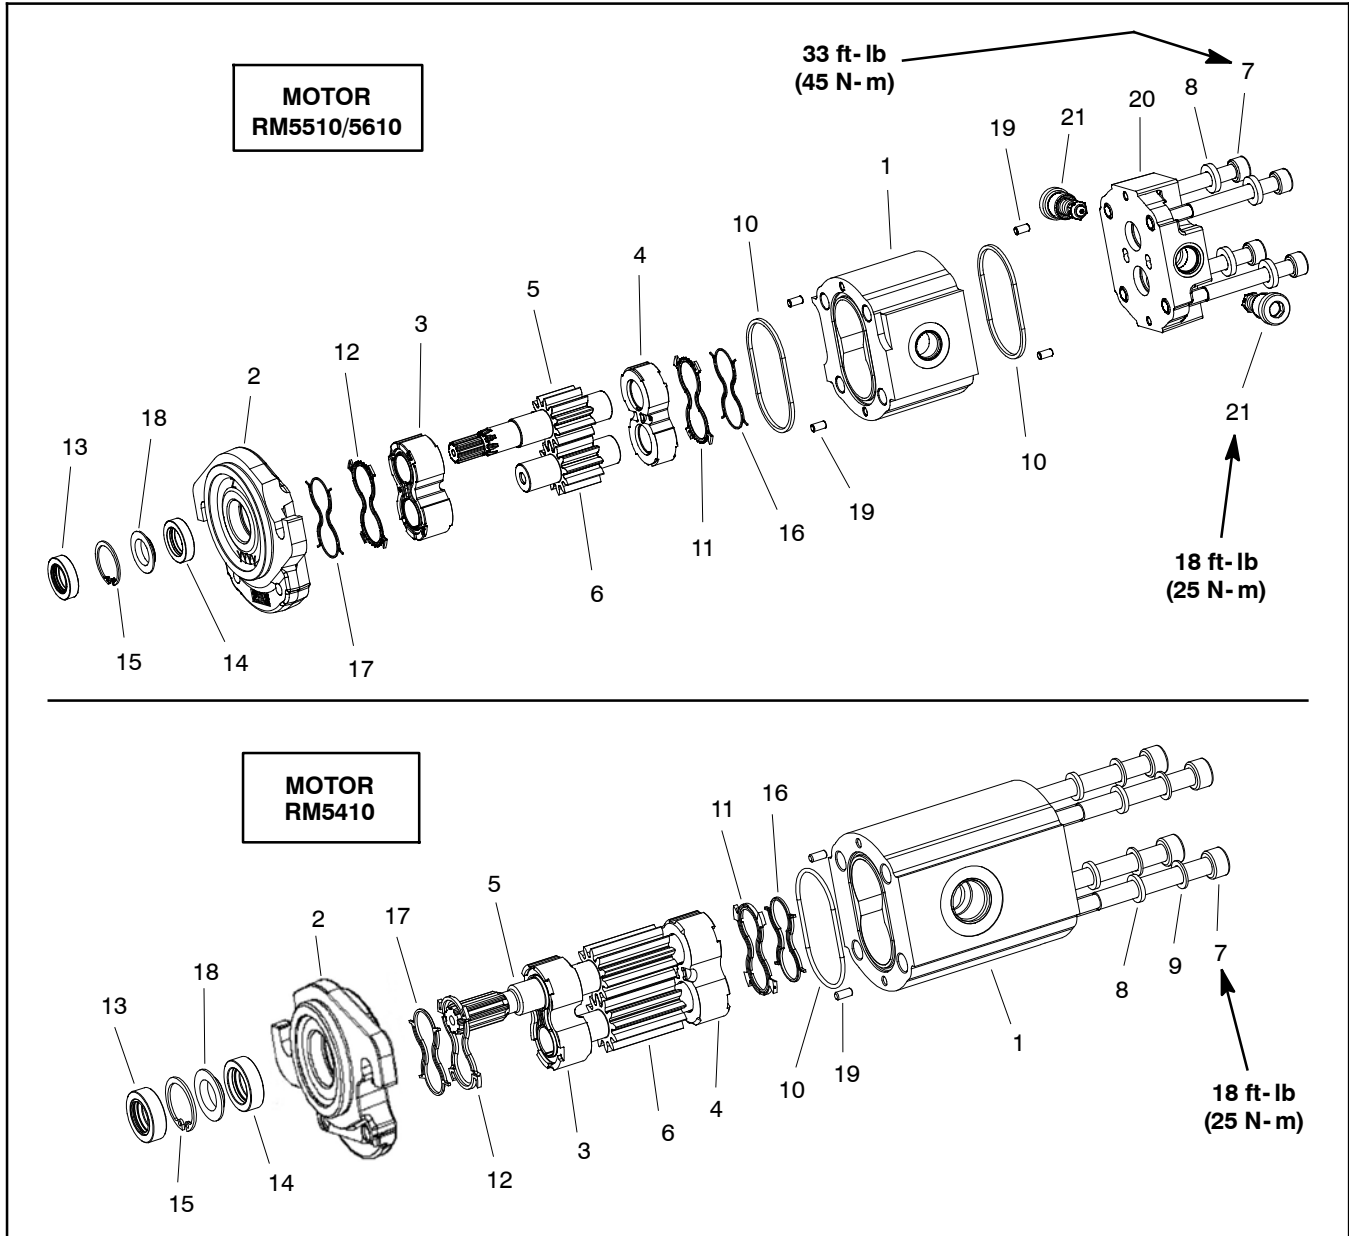

Figure 90
NOTE: Casappa cutting reel motors used on Reelmaster 5410 machines are different than Casappa reel motors used on Reelmaster 5510 and 5610 machines. The motors used on Reelmaster 5510 and 5610 machines have a separate rear cover that includes two (2) cross-over relief valves. Both cutting reel motors are shown in Figure 90. The following disassembly, inspection and assembly procedures can be used for either motor.